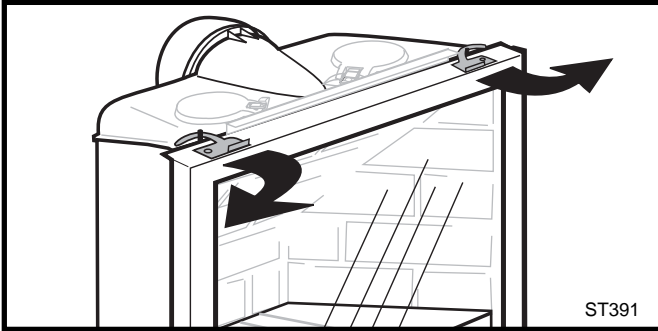

Fig. 78 Release the latches to release the glass frame.
2. Swing open the swiveling latches at the top left and right corners of the glass frame. (Fig. 78, Page 38)
Replace glass only with Vermont Castings approved parts. Refer to page 41 for Replacement Parts. Refer to Figure 78 and previous instructions for removal of the damaged glass frame.